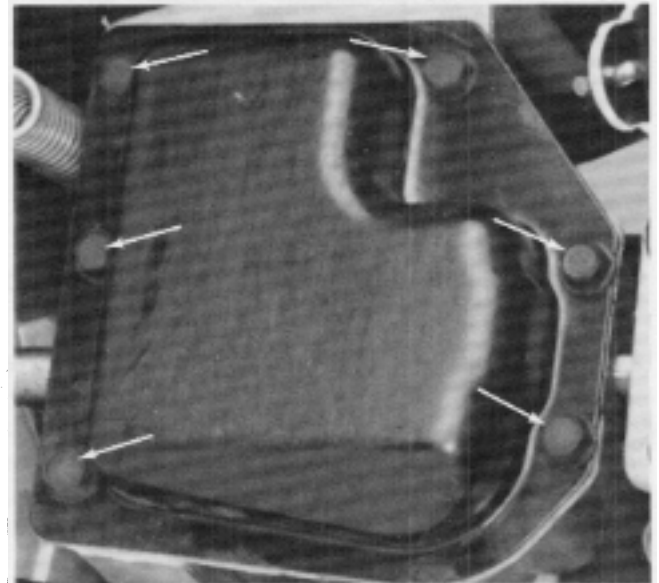

Figure 65
1. Remove the six flanged head self-tapping screws securing the transmission cover to the transmission case and remove the cover. See Figure 65.